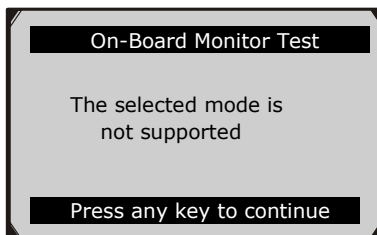

Figure 5.28
- If the vehicle under test does not support the mode, an advisory message will be displayed on the screen. (Figure 5.28)